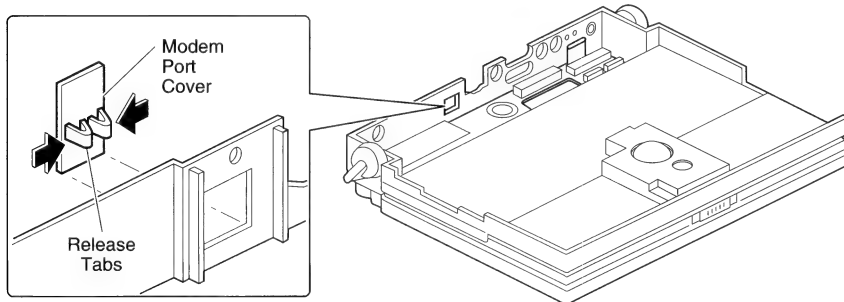

Figure 7 Modem Port Cover
- Remove the port cover to uncover the modem port. (To remove the modem port cover, pinch the tabs together at their base (Figure 7) and push the cover through the computer's back panel from inside to outside.)